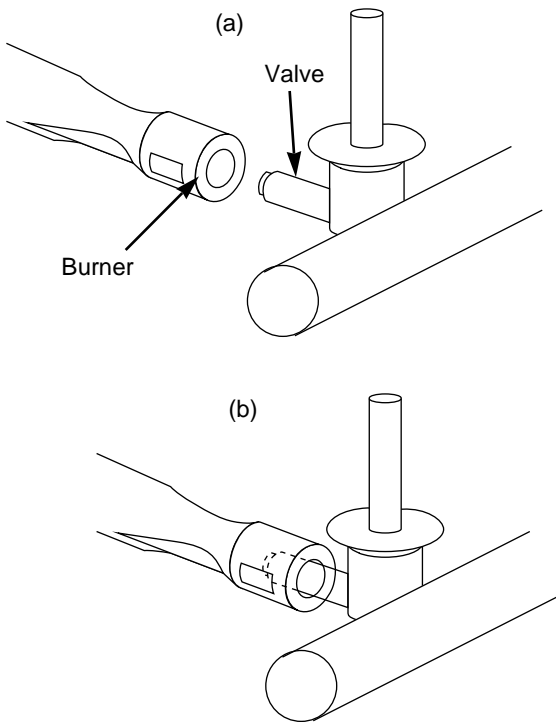

**Figure 21**
13. Lift and twist the burner assembly slightly to separate the crossover tube from the burners. Remove the burners from the cooking box. Figure 21.